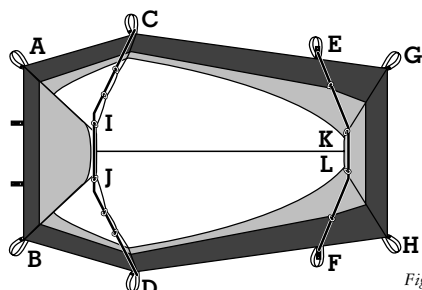
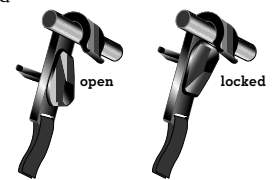

Figure 3: Tent Body (top view)
Figure 4: Cam-Loc™
First stake down the webbing loops at the back of the tent at points G and H (Figure 3). Then move to the front of the tent and pull the webbing loops at points A and B until the floor is square and semi-taut, and stake them down. Staking out points C, D, E and F is recommended, especially in high winds.
Insert the metal tips of the longer "front arch" pole into the grommets at points C and D (Figure 3). Clip the 2 Cam-Locs™ located above the door at points I and J onto the center section of the pole, taking care not to twist the webbing which connects the Cam-Loc to the tent. Do not engage the Cam-Loc at this time. Attach the remaining Swift Clips™, following the seam along the path of the pole, between points C and D. Now, insert the metal tips of the shorter "rear pole" into the grommets at points E and F. Attach the Cam-Locs at points K and L and Swift Clips to this pole in the same manner as the front pole. Once all the clips are attached to both poles you may engage the Cam-Locs by turning the key 180° until they lock completely onto the pole. When the Cam-Loc is engaged the key should be horizontal (Figure 4).